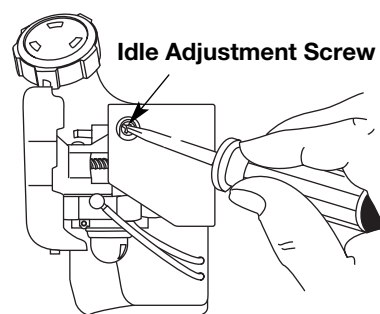

Fig. 33
The idle speed of the engine is adjustable. An idle adjustment screw is reached through a hole in the top of the engine cover (Fig. 33).
2. Release the throttle trigger and let the engine idle. If the engine stops, insert a small phillips into the hole in the air filter/muffler cover (Fig. 33). Turn the idle speed screw in, **clockwise**, 1/8 of a turn at a time (as needed) until the engine idles smoothly.